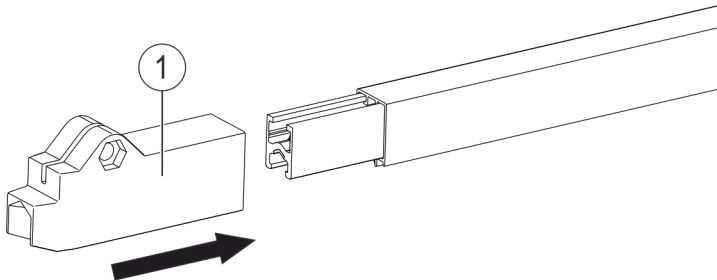

Fig. 99: Slide the end cap onto the end of the rail
- Slide the end caps (Pos. 1) onto the end of the rail (see Fig. 99) and mount (see Section 6.4.3.10).